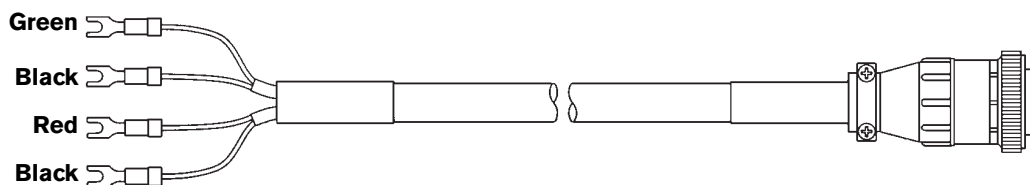

Figure 11 - External Machine Interface Cable (023206) and Signals
23. Make connections to machine interface – Fig. 11.